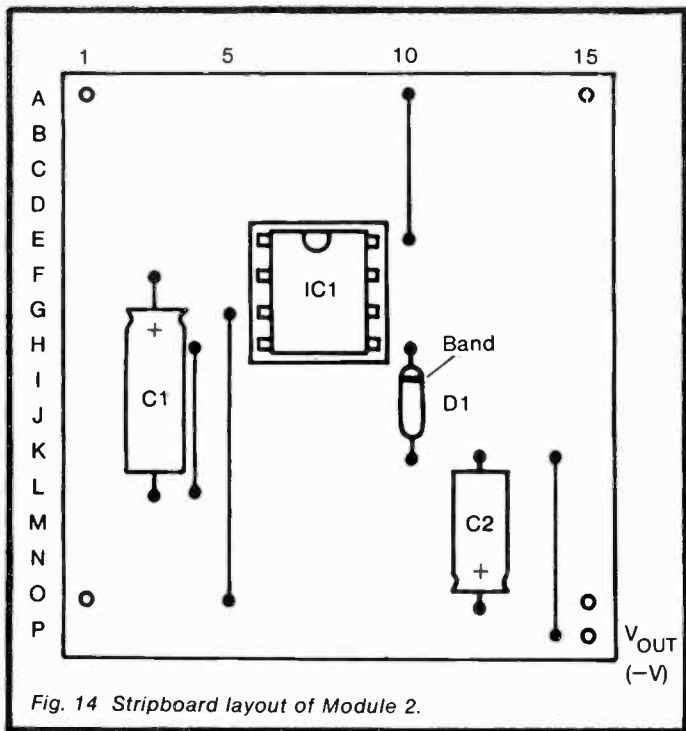

Fig. 14 Stripboard layout of Module 2.
**Stripboard layout:** see Figure 14.